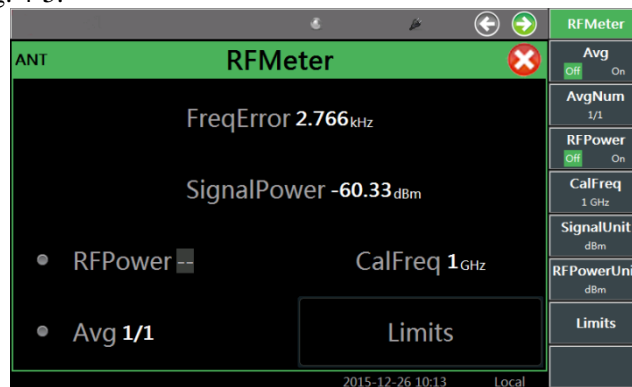

Fig. 4-5 Frequency Error Measurement Window
- Window opening: open the RF meter window by pressing the [Transmitter] hard key or pressing the [Measurement] hard key and setting the instrument menu. Select the window, and press the [Full Screen] hard key in the lower part of the screen to maximize the window, as shown in Fig. 4-5.
- Menu calling: click the touch screen, select the RF meter window as the current active window, and the corresponding menu will be displayed in the right side of the window, as shown in Fig. 4-5.